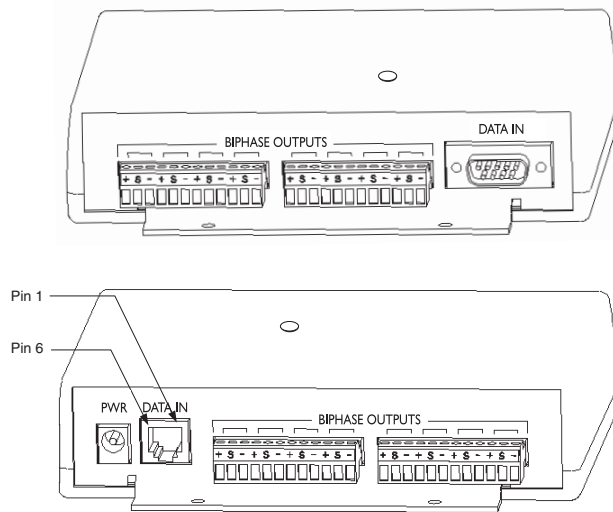

Figure 1 LTC 8786 Data Converter Connections
The removable terminal blocks for the biphasic code outputs have three connections: (+), (S) (Shield), and (-) for each of the sixteen biphasic code outputs as shown in FIGURE 1.